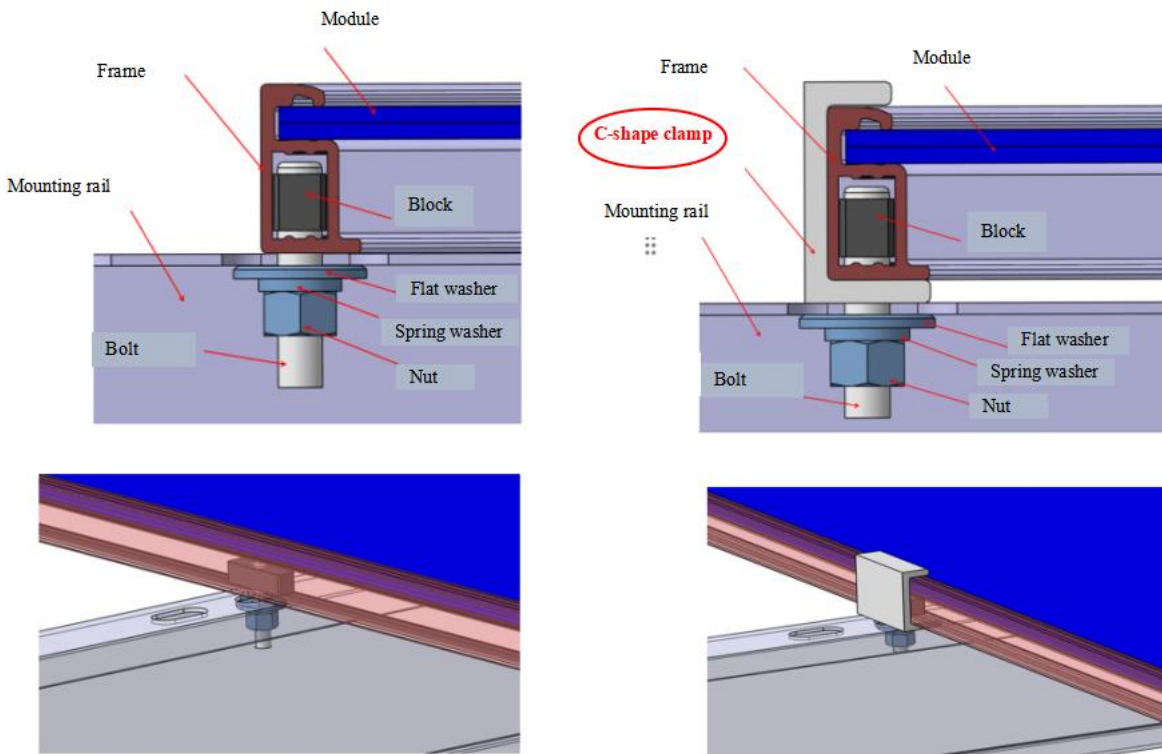

Fig. 14 Diagrammatic sketch of installation with bolts for composite material framed Modules
- If the installation needs to be reinforced, C-shape clamps are recommended for reinforcing. See Fig. 14 below.